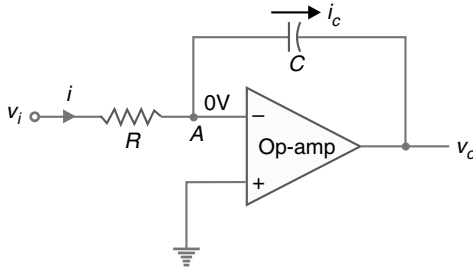
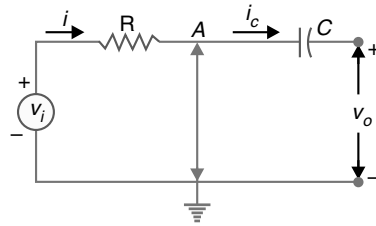
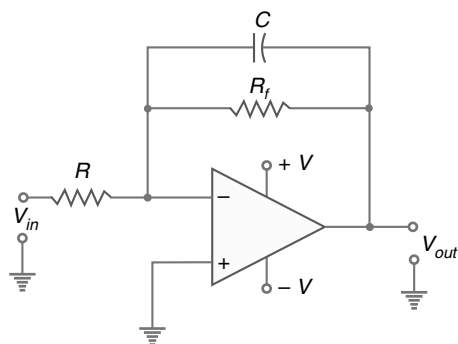

Fig. 23.80
Fig. 23.81
Fig. 23.83
increasing or decreasing voltage). Fig. 23.80 shows the circuit of an *OP*-amp integrator. It consists of an *OP*-amp, input resistor  $R$  and feedback capacitor  $C$ . Note that the feedback component is a capacitor instead of a resistor.
**Circuit Analysis.** Since point  $A$  in Fig. 23.80 is at virtual ground, the \*virtual-ground equivalent circuit of operational integrator will be as shown in Fig. 23.81. Because of virtual ground and infinite impedance of the *OP*-amp, all of the input current  $i$  flows through the capacitor *i.e.*  $i = i_c$ .
The integrator shown in Fig. 23.80 (Refer back) has no feedback at 0 Hz. This is a serious disadvantage in low-frequency applications. By connecting a feedback resistor  $R_f$  in parallel with the capacitor, precise closed-loop voltage gain is possible. The circuit shown in Fig. 23.83 is an integrator with a feedback resistor  $R_f$  to provide increased stability.